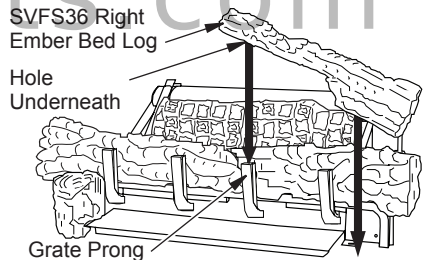

Figure 27 - Installing Right Ember Bed Log
4. The SVFS32 and SVFS36 use two different right ember bed logs. The SVFS32 right ember bed log is installed in the same manner as the log in step 3 above but on the right side. The SVFS36 right ember bed log has a hole in the bottom that sets on the grate finger and the other end rest on the fireplace floor, place log as shown in Figure 27. The back side of this log needs to rest against the front of the base assembly, make sure the flame from the ember pan does not touch the ember bed log.